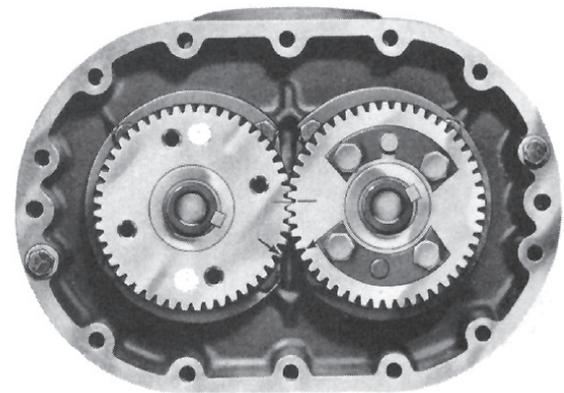

Figure 8-3 – Timing marks advanced 3 teeth (reference marks aligned)
10. Rotate the drive gear in a clockwise rotation approximately 4 or 5 teeth and mark this location (**see Figure 8-3**). This gear position is necessary so rotors will clear and not jam. Do not allow the reference marks to change location while the driven gear is being removed.